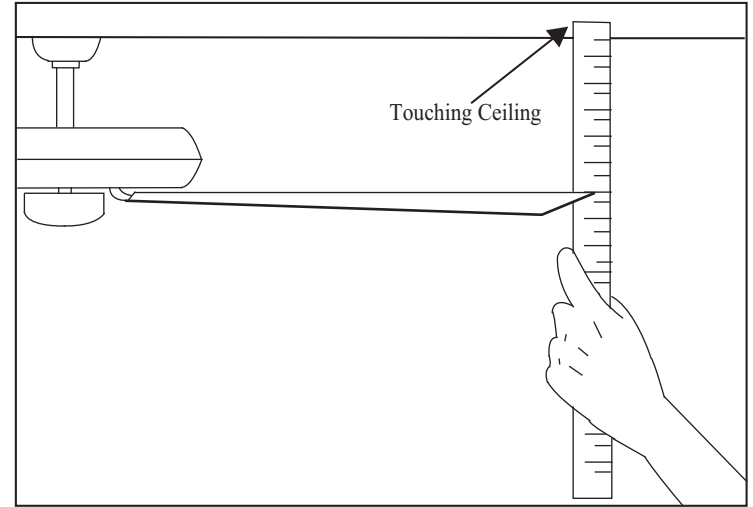

Figure 13
2. Most fan wobble problems are caused when blade levels are unequal. Check this level by selecting a point on the ceiling above the tip of one of the blades. Measure from a point on the center of each blade to the point on the ceiling. Measure this distance as shown in Figure 13. Rotate the fan until the next blade is positioned for measurement. Repeat for each blade. Measurements deviation should be within $1/8''$. Run the fan for 10 Minutes.